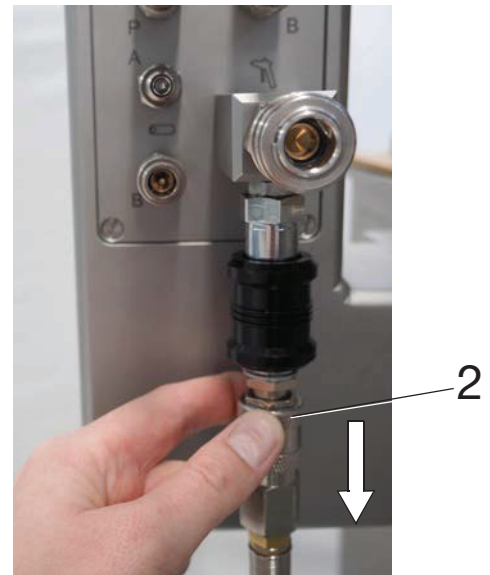

Fig. 9-11 2 Ring on the air release valve
- Push and hold the compressed air hose in the direction of flow while pushing the ring on the air release valve (2, Fig. 9-11) against the direction of flow and remove the hose.